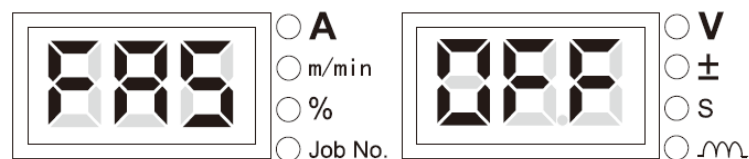

Figure 3-35 FA5 option screen
1. Access the internal menu, switch the knob on the control panel of the welder to **FA5**. The LED screens display the message shown in Figure 3-35.